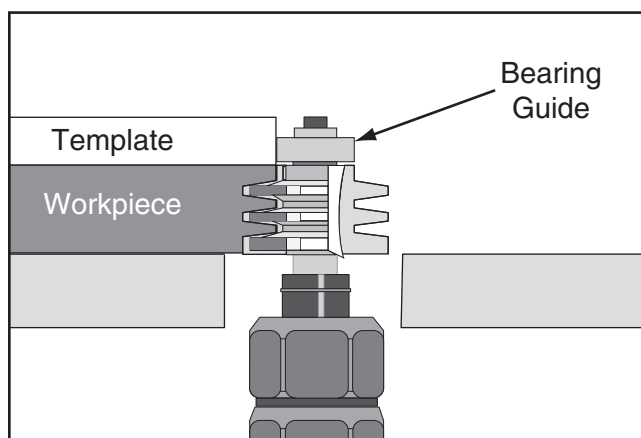

Figure 58. Using a template and bearing guide for free-hand routing.
6. Install a router bit with bearing guide as directed by router manufacturer's instructions, then raise it to desired height (see **Figure 58**).